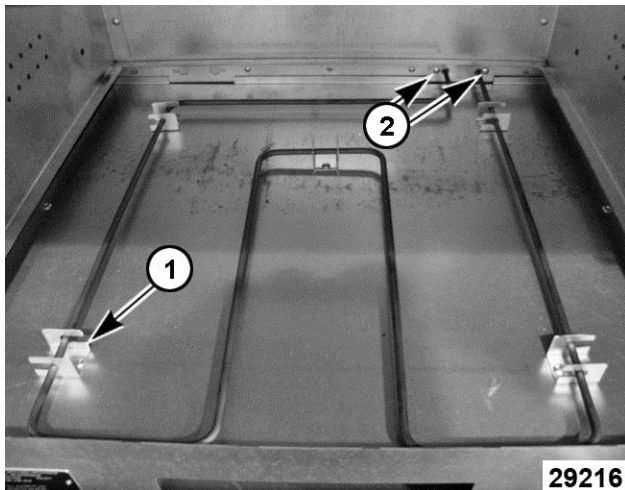

Fig. 19
6. Loosen element mounting brackets (1, Fig. 19).
7. Remove element mounting screws (2, Fig. 19).